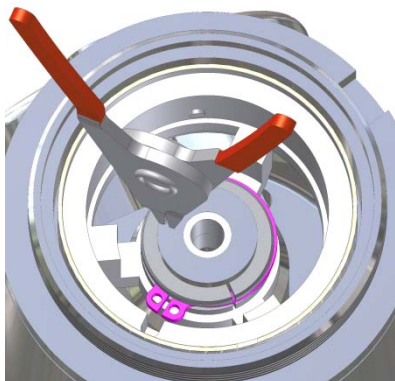

Figure 12
1. Remove position 9 using snap-ring pliers (see Figure 12).